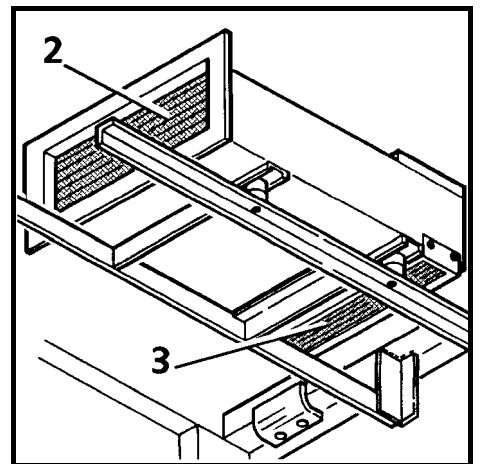

Fig. 43
- If dirty, the heat exchanger has to be cleaned immediately (Fig. 43, pos. 2).
- Remove and clean the fresh air filter of the heater (Fig. 43, pos. 3).